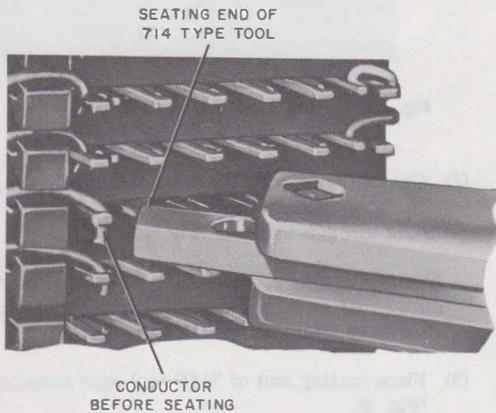

Fig. 6—Seating B Service or SK Station Wire
- (3) Place seating end of 714B tool over terminal (Fig. 6).
- (4) Press tool toward block until wire is fully seated.